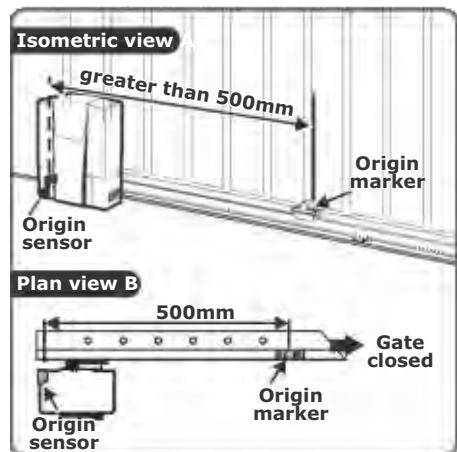

FIGURE 31
- Mount the origin marker to the rack a minimum of 500mm from the origin sensor. Refer to Figure 31, isometric view or plan view B.